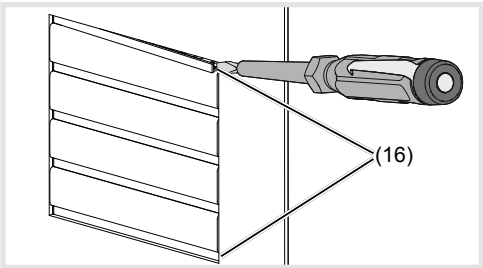

Figure 15: Removing the cover strips
- Lever up the interlocking cover strips (16) at the top and bottom using the screwdriver and remove (Figure 15).